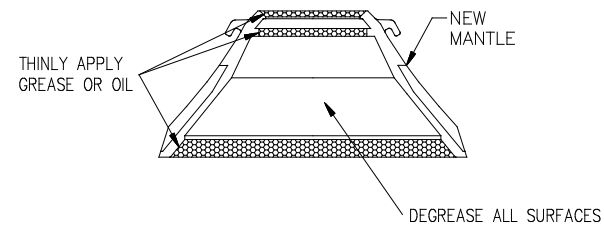

Fig. 6.3.10
- Cover up the lifting holes of mantle core, to prevent entry of Backing material. Clean the mantle core mating surfaces and apply a thin layer of grease or oil evenly. (Fig. 6.3.10)